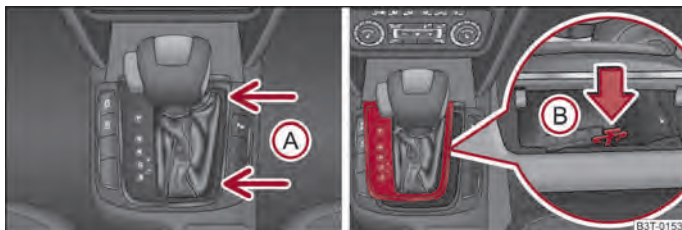

Fig. 130 Selector lever-emergency unlocking
- Grasp the selector lever cover at the points of the arrows **A** and carefully pull it upwards ⇒ fig. 130.